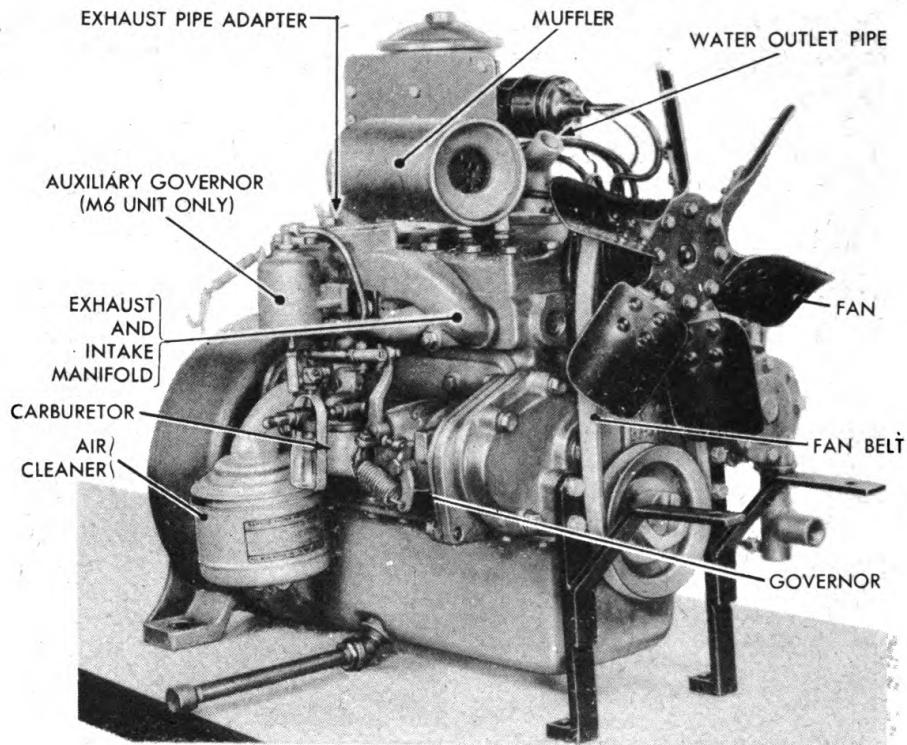

Figure 9 — Engine with Accessories
31. DESCRIPTION AND TABULATED DATA (fig. 9).